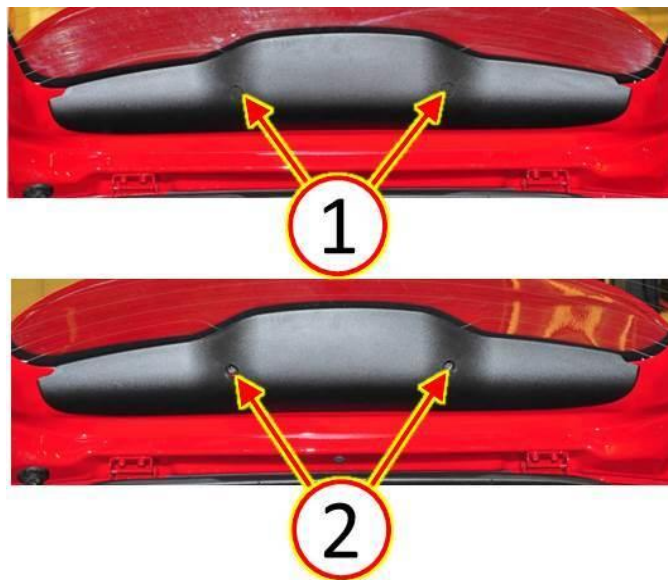

Fig. 2 Remove Liftgate Upper Trim Panel
2. Remove the plastic fastener covers (1) from the upper trim panel (Fig. 2).
3. Remove the upper trim panel fasteners (2), then lower the upper trim panel (Fig. 2).